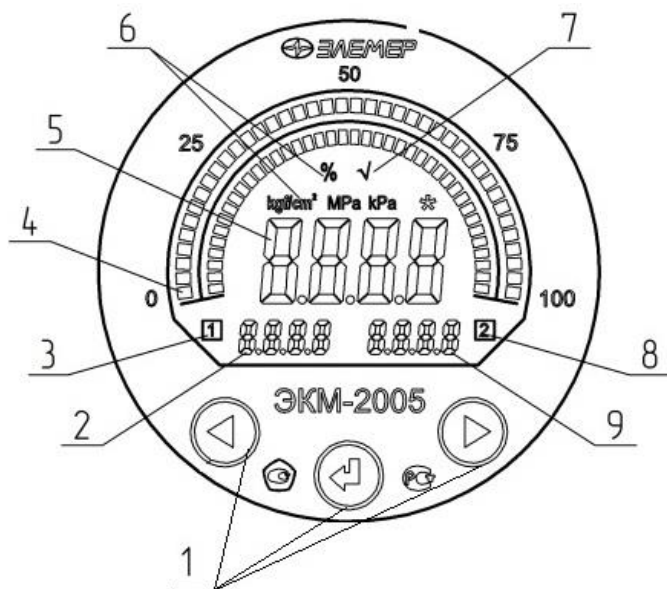
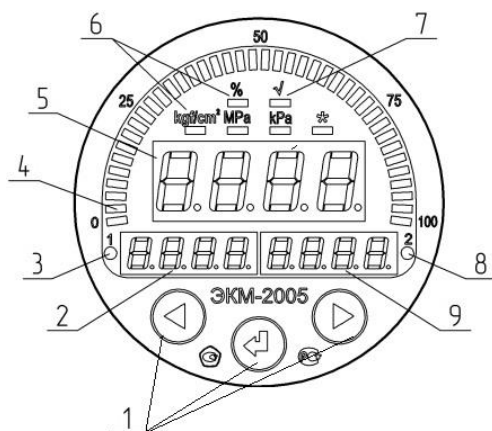

Figure 2.1
Figure 2.2
Designations for Figures 2.1 and 2.2:
- 5 – main display field: LCD display (see Figure 2.1) and LED display (see Figure 2.2);
2.4.2 The front panel of ЭКМ contains (see Figures 2.1, 2.2):